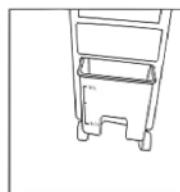

fig.3
(1) Water level must be between the MIN and MAX line.(shown as fig.3).